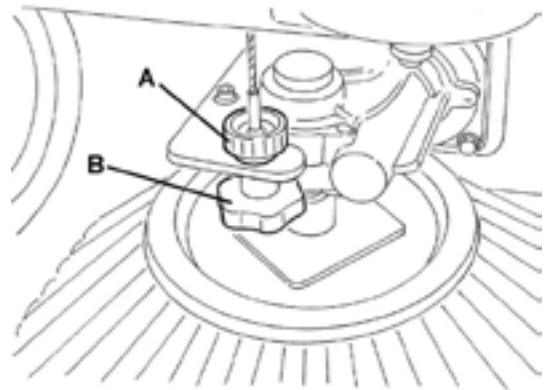

Figure7
2) Turn the ignition key (71) to "0".
3) Loosen the knob (A, Fig. 7) positioned above the brush.
4) Turn the knob (B, Fig. 7) and remind that: